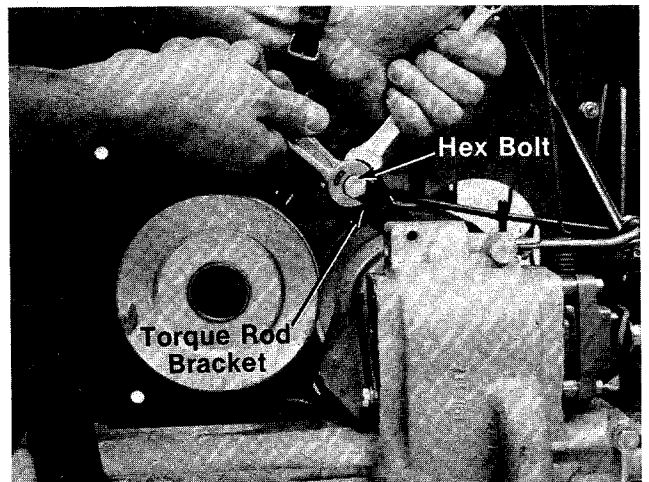

FIGURE 28.
3. Remove the hex bolt which holds the torque rod bracket to the torque rod, and remove bracket. See figure 28.